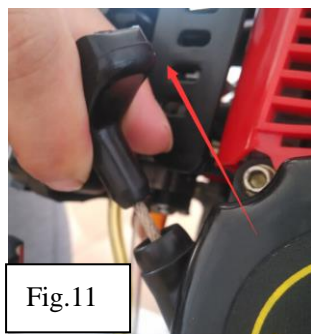

Fig.11
3. Pull the recoil starter 2-3 times until you hear the engine has “Bomb” sound which is nearly starting. The engine may start, or it may be required to pull on the recoil starter until the engine starts.(see Fig.11)